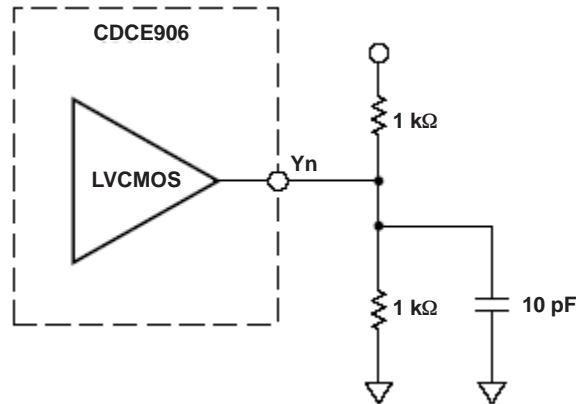

Figure 1. Test Load
**DEVICE CHARACTERISTICS**over recommended operating free-air temperature range and test load (unless otherwise noted), see Figure 1
over recommended operating free-air temperature range and test load (unless otherwise noted), see Figure 1